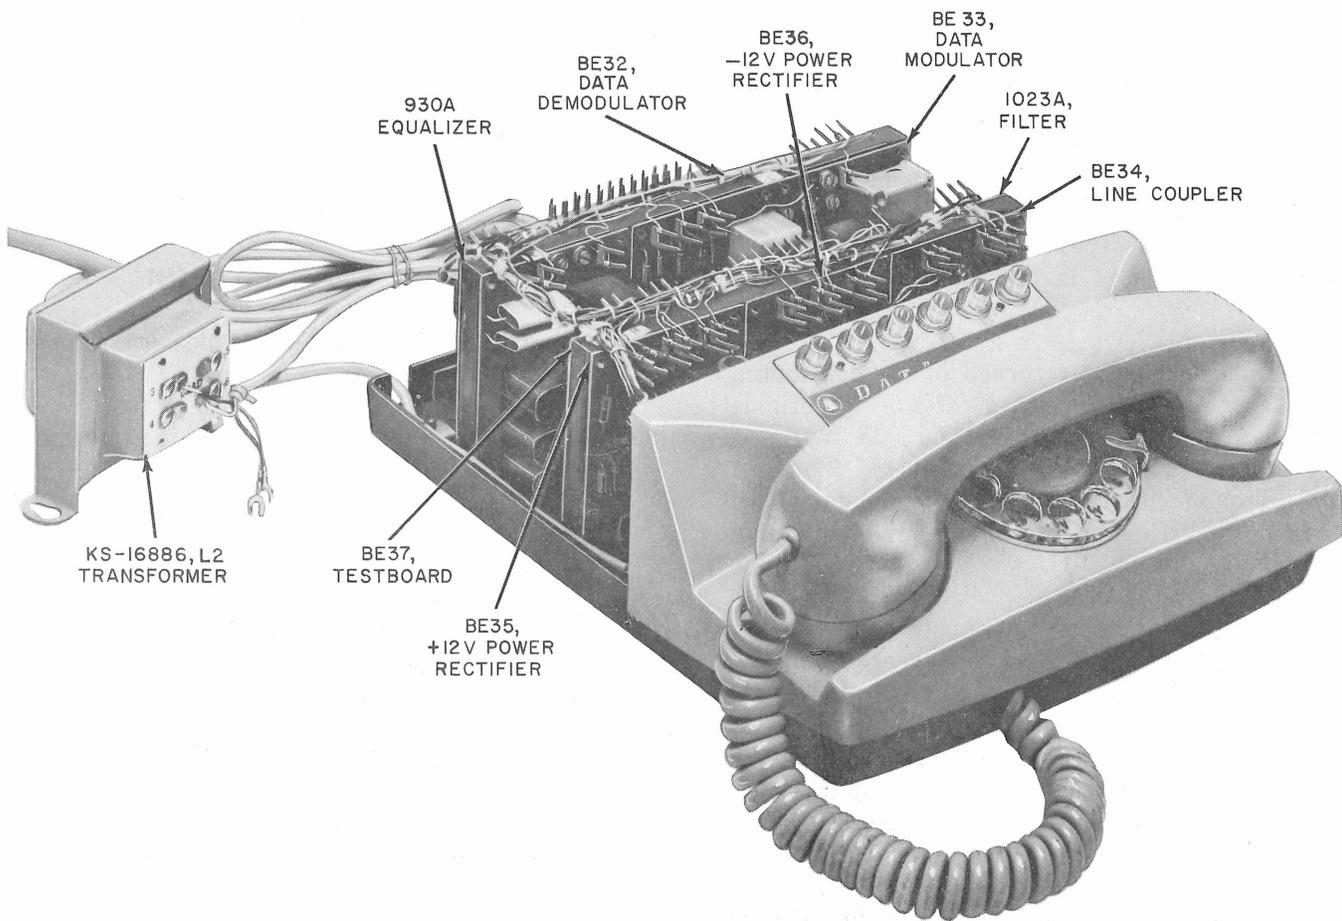

Fig. 1—Data Set 602D-L1 (Available Also With TOUCH-TONE® Dial)
1.01 This section contains the information necessary for the maintenance of Data Set 602D-type (Fig. 1). It does not include maintenance information concerning the business machine used with the data set.